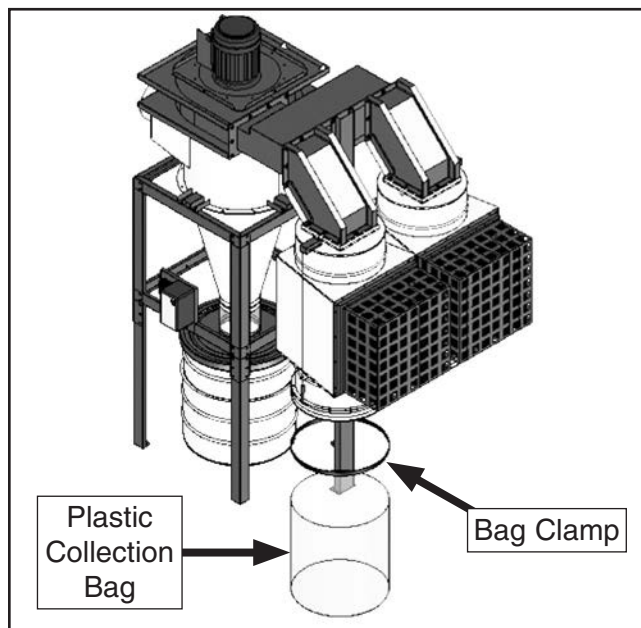

Figure 9. Installing collection bag under filter.
7. Slip plastic collection bag around opening under canister filter and secure with metal bag clamp (see **Figure 9**).